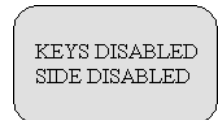

Fig. 6: Keys Disabled Screen
3. To Enable Keypad and Side buttons, repeat the process on more time and display will show "Keys Enabled", "Side Enabled". (See Figures 6 & 7)